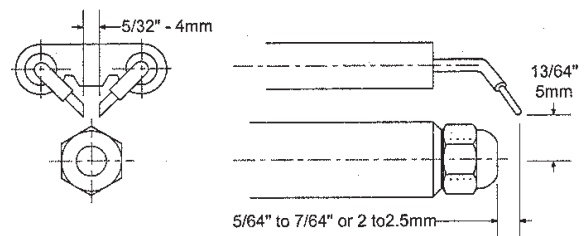

Figure 7: Electrode Setting
- iv. Replace adapter, with nozzle installed, into drawer assembly and secure with screw (1).
- c. **Inspect and measure burner electrodes.** Refer to Figure 7 for the proper electrode settings.